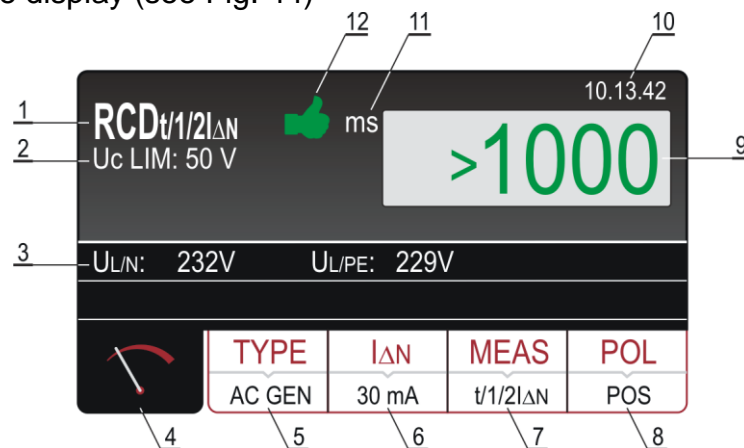

Fig. 44 : Visualization of RCD test result
10. Press the **START/STOP** key to perform the measurement. The test result is shown on the display (see Fig. 44)